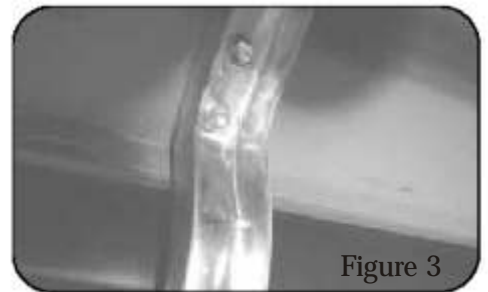

Figure 3
- STEP 4. Attach remaining brackets to the middle and rear set of mounting holes. Use two M8 bolts for each bracket, Leave loose. SEE FIGURES 3 AND 4.